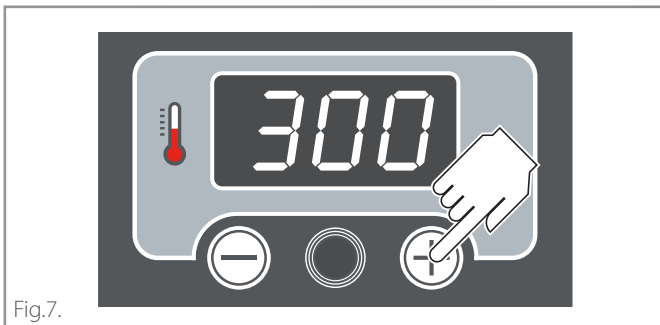
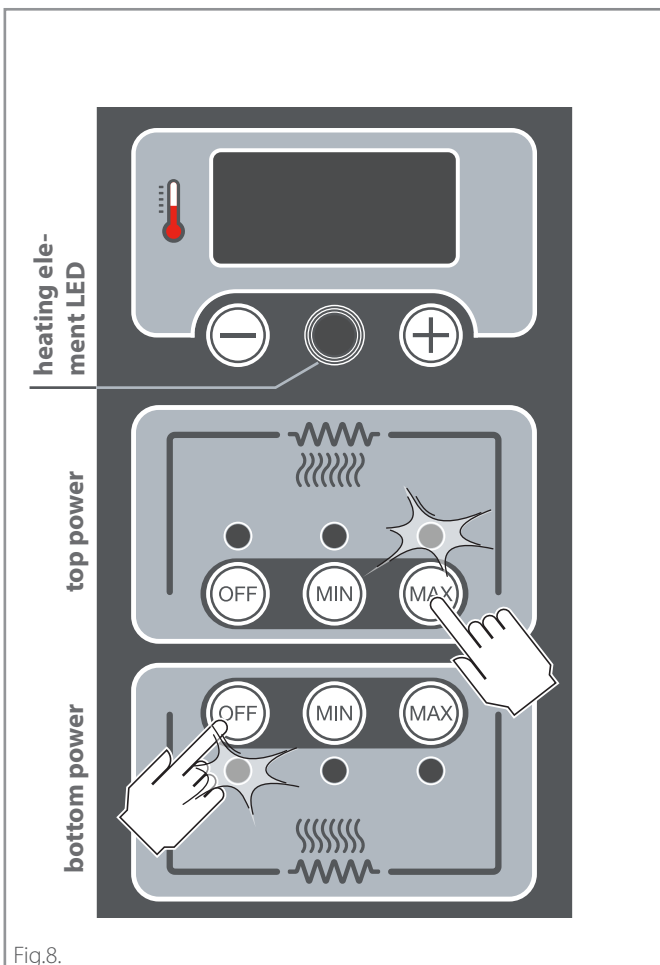

Fig.7.
Fig.8.
- set a cooking cycle with the desired parameters: (► **Fig.7.** - **Fig.8.**)
► **Fig.7.**
► **Fig.8.**